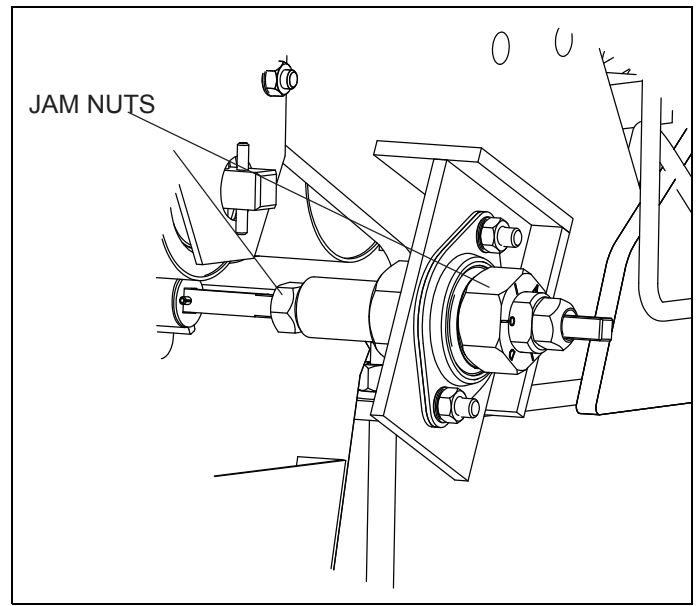

Figure 4-6: Jam Nuts
1. Jam nuts on both ends of the micrometer are used to adjust all cups the same amount. See Figure 4-6.